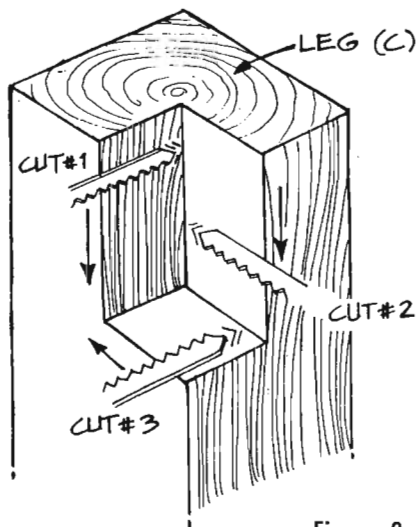

Figure 2
1. Cut each of the four newel posts to 14-1/2 inches long. These will be the legs (C). In order to support the side rails of the coffee table, we have to remove a corner section of wood from the square top of each of the four legs (C). This maneuver is designed to eliminate the need for making blind dados.
2. Set the depth of your saber saw to 1-3/4 inches. Make three cuts in the order shown in *Figure 2*. The blade edges in the drawing indicate the direction of the cuts. If you use a chisel instead, use the illustration to guide your cuts.